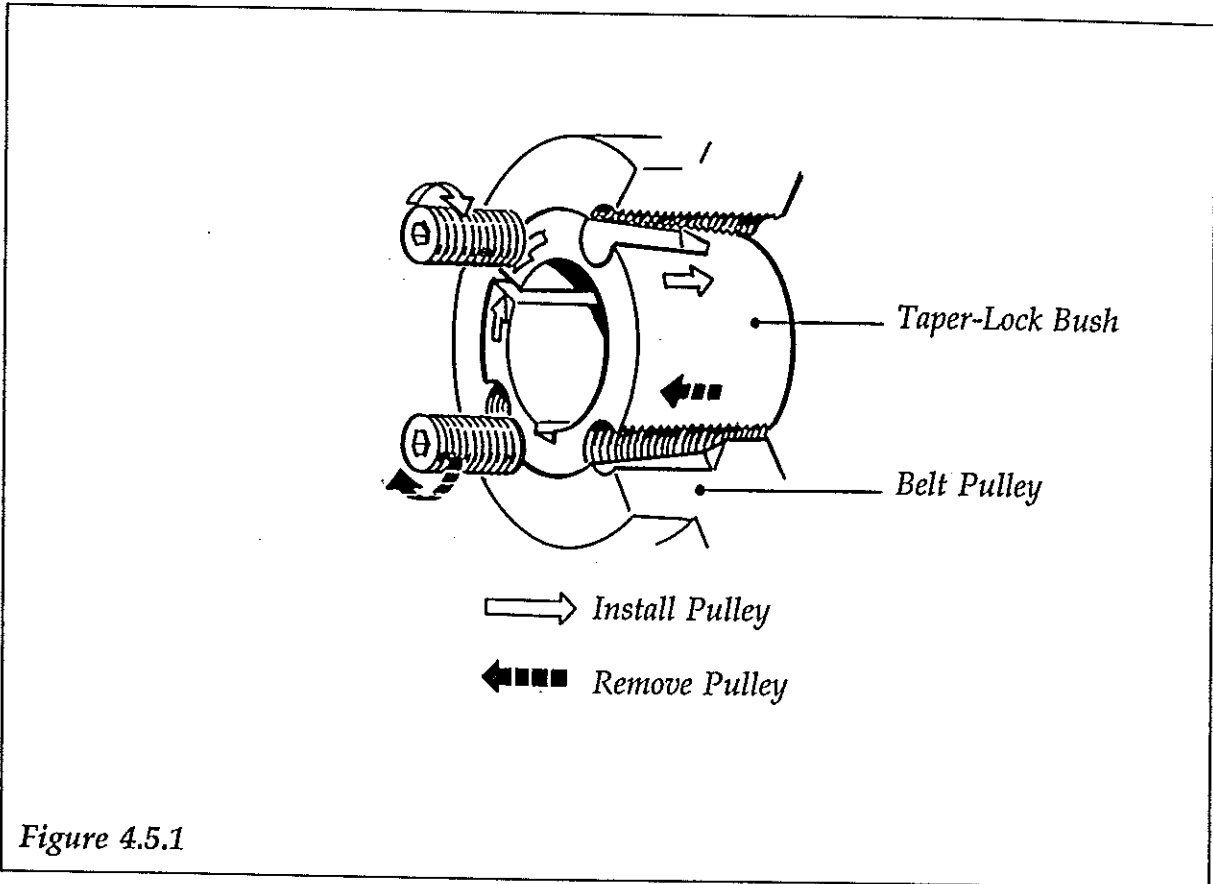

Figure 4.5.1
4.5.1 Belt Pulley with 'Taper-Lock' Bush (Fig. 4.5.1)
Figure 4.5.1 illustrates a hub of a belt pulley secured with 'Taper-Lock bush.
4.5.2 Remove Belt Pulley (Fig. 4.5.1, Lower Half of Sketch)
4.5.3 Install Belt Pulley (Fig. 4.5.1, Upper Half of Sketch)